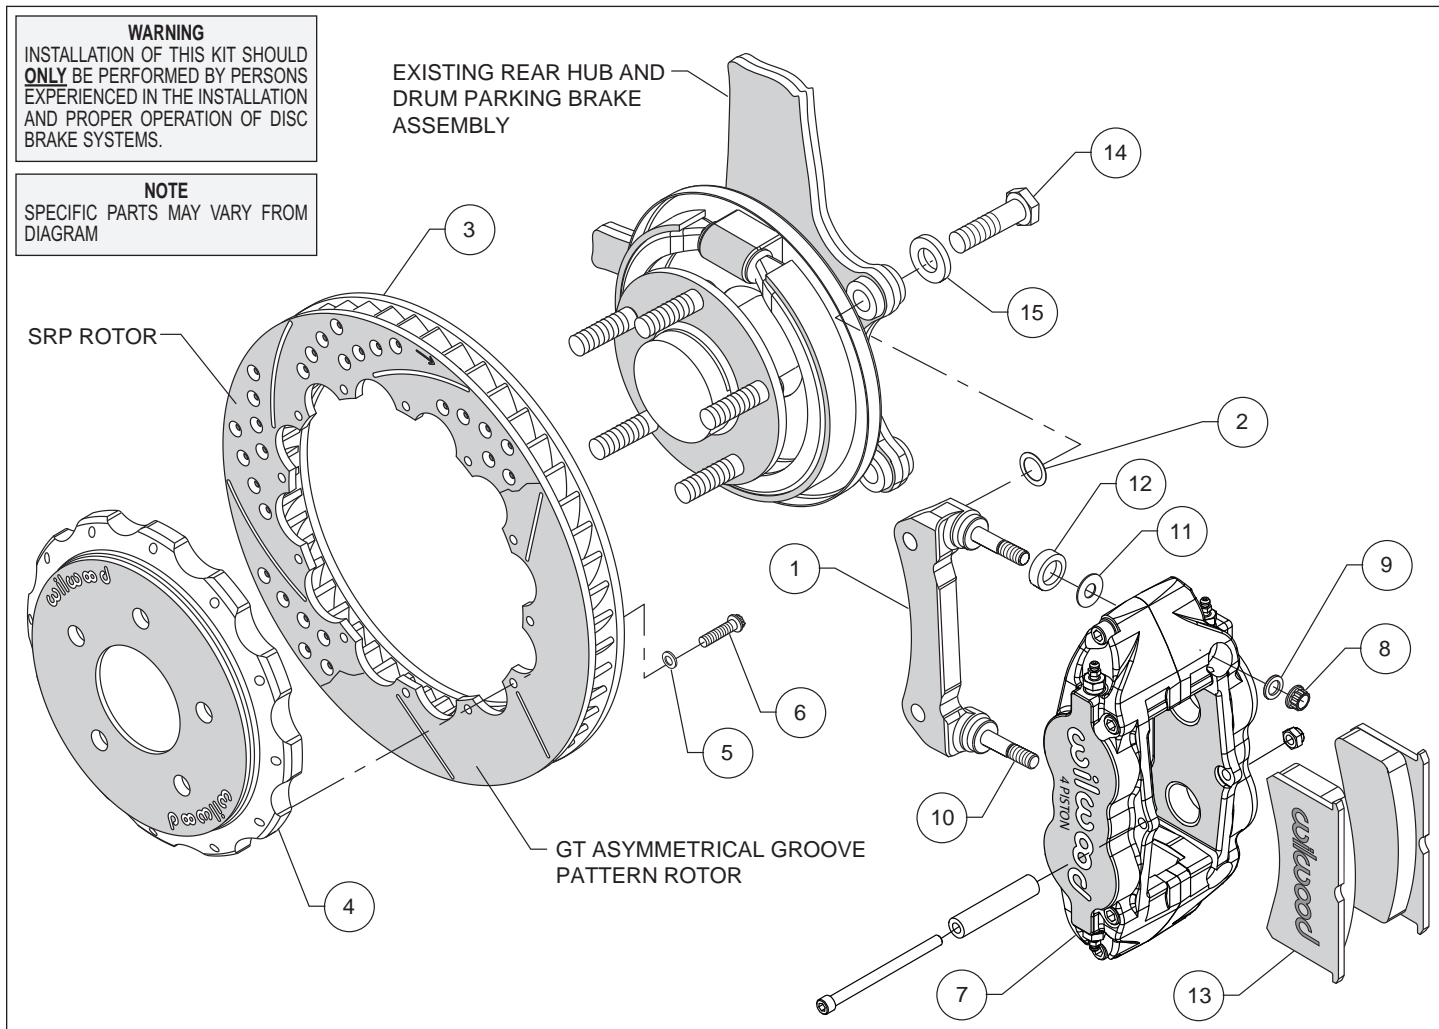
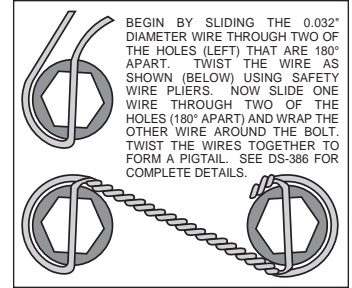

Figure 1. Typical Installation Configuration
Figure 3. Safety Wire Diagram
Assembly Instructions (numbers in parenthesis refer to the parts list and Figure 1 on the preceding pages):
- The caliper mount bracket (1) should initially be installed with clean, dry threads on the mounting bolts. Orient the bracket, as shown in Figure 1 and install using bolts (14) and washers (15). Initially place one .029" thick shim (2) on each bolt between the bracket and upright, Figure 1. Temporarily tighten the mounting bolts. **NOTE:** *The bracket must fit squarely against the mount bosses on the upright.* Inspect for interference from casting irregularities, machining ridges, burrs, etc. Later, after the caliper alignment has been checked, the mount bolts will be secured using red *Loctite*[®] 271.
- Orient the rotor (3) and the hat (4) as shown in Figure 1 and Photo 1. Attach rotor to hat using bolts (6) and washers (5). Using an alternating sequence, apply red *Loctite*[®] 271 to the threads, and torque to 155 **in-lbs**. For an added measure of security, the bolts may be safety wired using standard 0.032 inch diameter stainless steel safety wire as shown in Figure 3. Refer to Wilwood's data sheet DS-386 (available at www.wilwood.com/Pdf/DataSheets/ds386.pdf) for complete safety wire installation instructions.
- Lubricate the caliper mounting studs (10) with lightweight oil. Initially place one .035" thick shim (11), and spacer (12) on each stud as shown in Figure 1 and Photo 2. Mount the caliper (7) onto the bracket (1) using lock nuts (8) and washers (9), Figure 1. Temporarily tighten the lock nuts and view the rotor through the top opening of the caliper. The rotor should be centered in the caliper, Photo 3. If not, adjust by adding or subtracting shims (2) between the bracket and the upright. Always use the same amount of shims on each of the two mounting bolts. Once the caliper alignment is correct, remove the bracket mounting bolts (14) one at a time, apply red *Loctite*[®] 271 to the threads, and torque to 77 ft-lb.